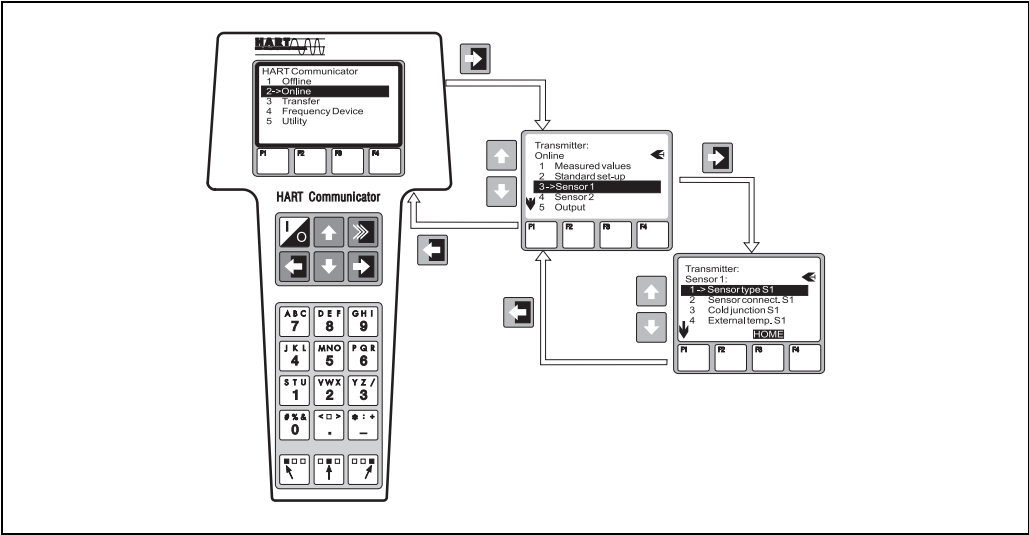

Fig. 11: Configuration at the handheld module, using 'Sensor input' as an example
- Measuring device is already connected. The 1st menu level of the device function matrix appears directly (see Fig. 11). All the functions accessible under HART® are systematically arranged in this matrix.